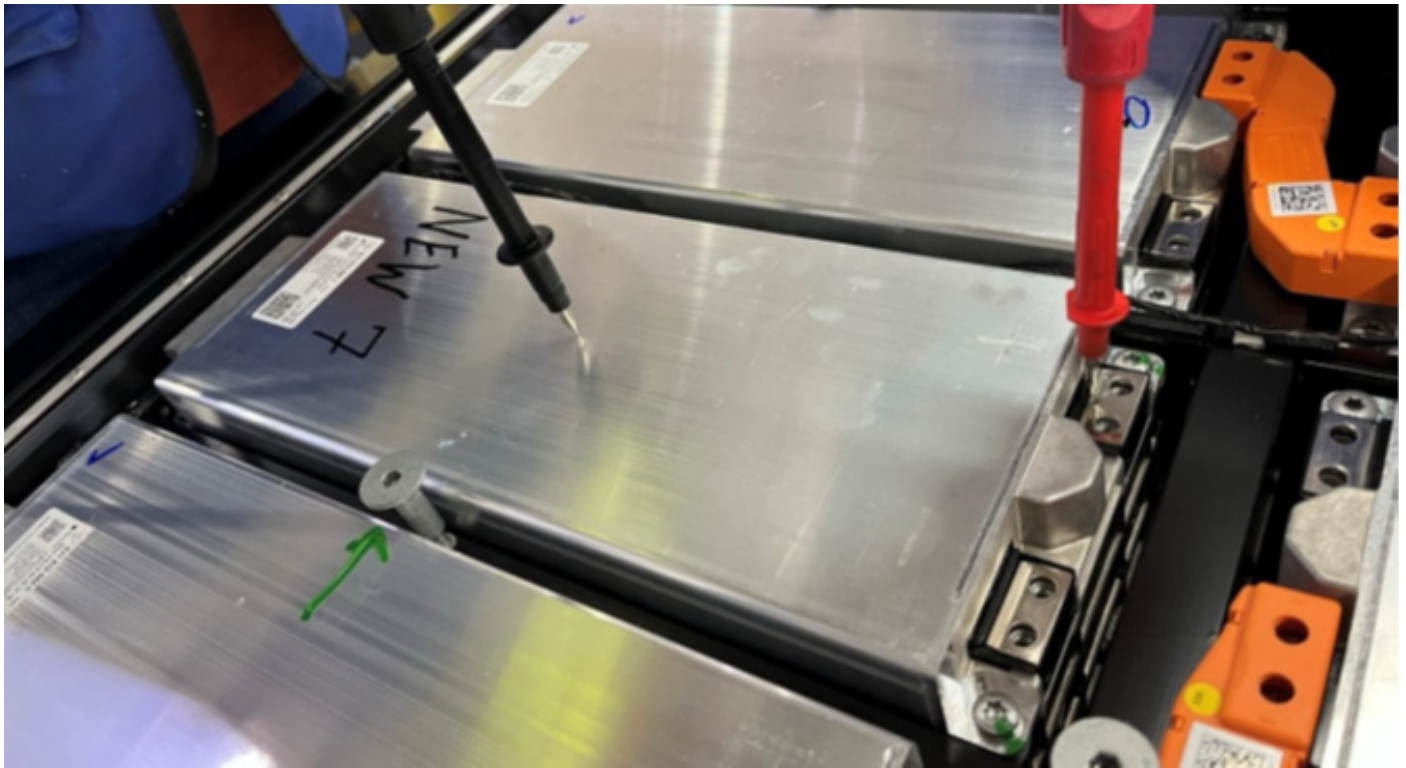

Figure 3 - IR Test at Positive Terminal
- When IR testing a module on the positive terminal: Contact the positive terminal with the red test probe as shown in *Figure 3*.
Module IR Testing Procedure: Positive Terminal (Figure 3)